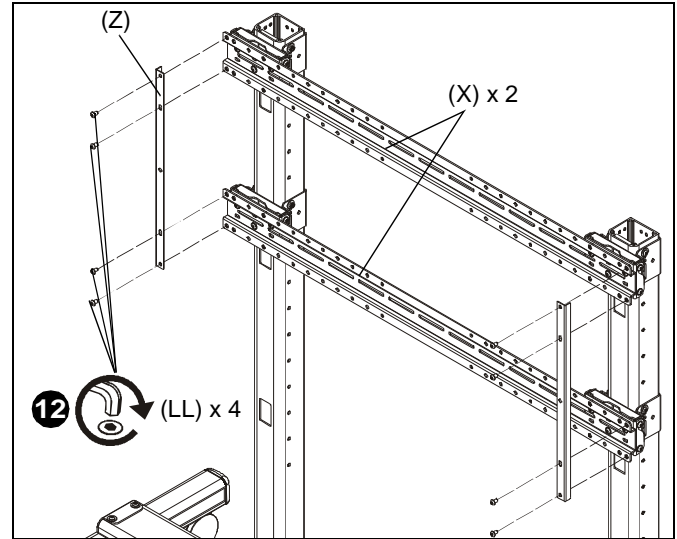

Figure 9
- Use four 5/16-18 x 1/2" button head cap screws (LL) to secure each side bracket (Z) to wall plates (X). (See Figure 9)